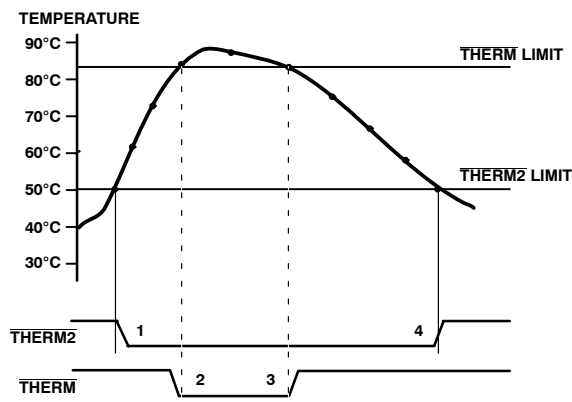

Figure 21. Operation of the $\overline{\text{THERM}}$ and $\overline{\text{THERM2}}$ Interrupts
Figure 21 shows how $\overline{\text{THERM}}$ and $\overline{\text{THERM2}}$ might operate together to implement two methods of cooling the system. In this example, the $\overline{\text{THERM2}}$ limits are set lower than the $\overline{\text{THERM}}$ limits. The $\overline{\text{THERM2}}$ output could be used to turn on a fan. If the temperature continues to rise and exceeds the $\overline{\text{THERM}}$ limits, the $\overline{\text{THERM}}$ output could provide additional cooling by throttling the CPU.
3. The $\overline{\text{THERM}}$ output deasserts (goes high) when the temperature falls to $\overline{\text{THERM}}$ limit minus hysteresis. No hysteresis value is shown in Figure 21.